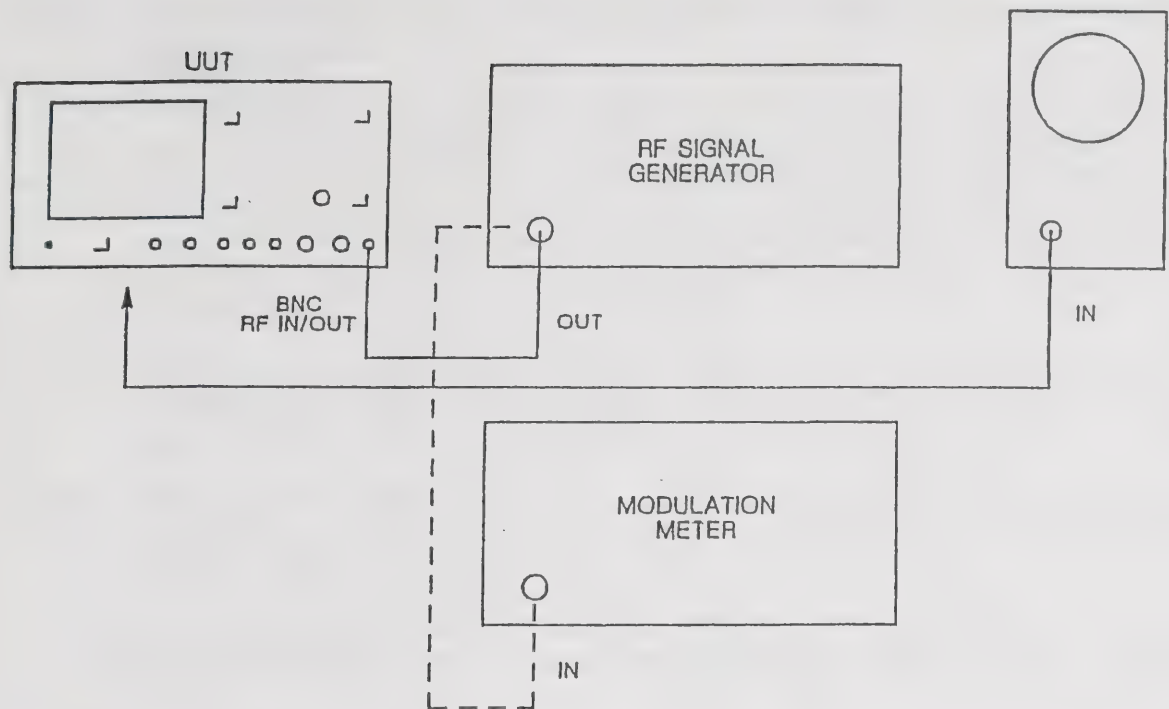

Fig. 3-7 Test equipment connections for adjusting R138, R172, R168, R129 on AB5/1
- (1) Connect the signal generator to the UUT as shown in Fig. 3-7.
- (2) Set the signal generator to carrier frequency 100 MHz, modulation off, RF level 0 dBm.
- (3) Set the UUT to TRANSMITTER TEST, monitoring AM, 0.3 to 3.4 kHz band-pass filter, BNC input.
- (4) Set R172 to mid-position. Monitor TP1 via the probe on the oscilloscope.
- (5) Reduce the signal generator output slowly until the trace on the oscilloscope starts to reduce. Now adjust R138 to peak the trace, i.e. maximum amplitude on TP1.
- (6) Increase the signal generator RF level to 0 dBm and adjust R172 for 1 V pk-pk on the oscilloscope. Remove the oscilloscope probe from TP1.
- (7) Set the signal generator to carrier 100 MHz, AM 50%, modulation 1 kHz, RF level 0 dBm.
- (8) Set the modulation meter to measure AM, (pk-pk)/2 with the 0.3 to 3.4 kHz band-pass filter selected.
- (9) Connect the signal generator output to the modulation meter input and note the AM depth reading.
- (10) Connect the signal generator output to the UUT BNC input socket and adjust R168 to give the same AM reading on the UUT as was displayed on the modulation meter.
- (1) Connect the signal generator to the modulation meter as shown in Fig. 3-7.
- (2) Set the signal generator to carrier frequency 100 MHz, FM deviation 5 kHz, modulation rate 1 kHz, RF level 0 dBm.